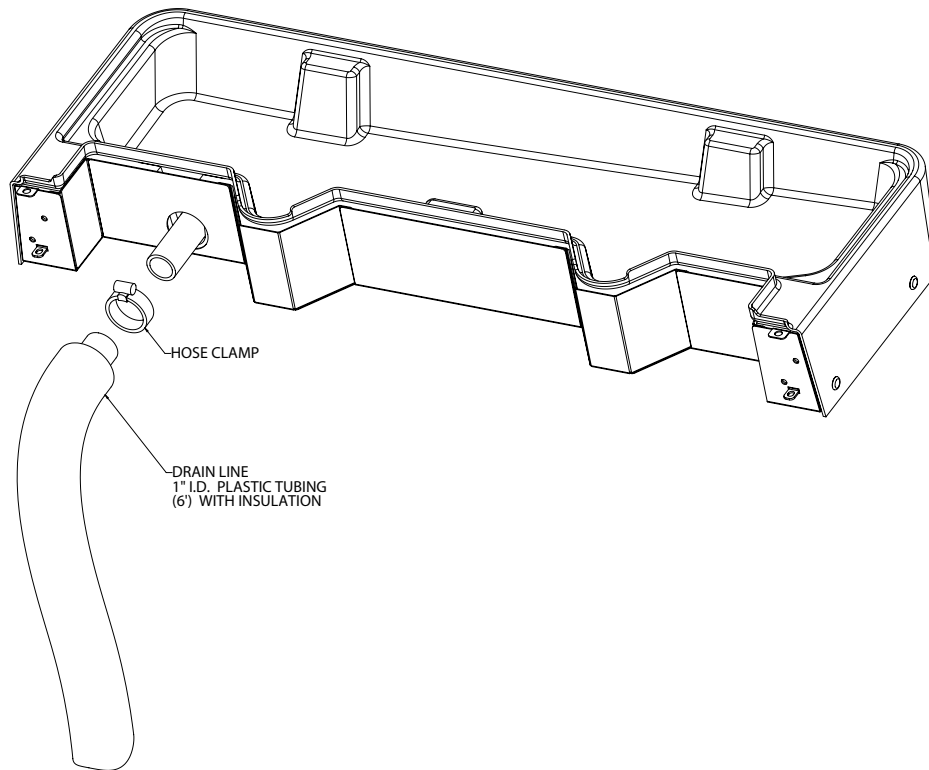

FIGURE 7. Drip Tray Drain Assembly
3. DRIP TRAY DRAIN ASSEMBLY (see FIGURE 7): Route the drain tube to an open drain with the end of the tube above the "flood" level of the drain. Use the tubing, fittings, clamps, and insulation provided with the Dispenser to assemble the drain. The completed drain line *must* pitch continuously downward and contain no "traps" or improper drainage will result.